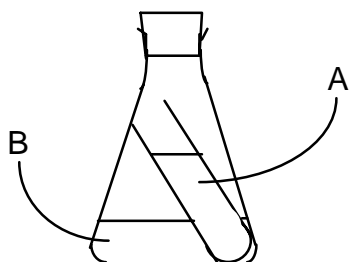

Figure 1
B. The apparatus shown in Figure 1, which contains the same solutions used in part A, is weighed. The solutions are mixed and the apparatus weighed again. What do the results indicate about chemical reactions?